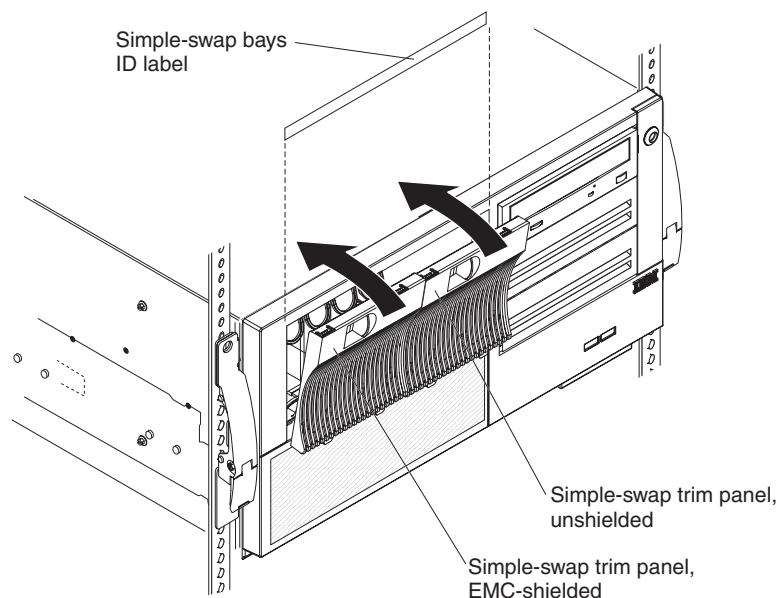

Figure 21. Installing simple-swap trim panels
4. On models with simple-swap hard disk drive bays, insert the trim panels for the hard disk drive bays in the new bezel as shown in Figure 21. Be sure to install the *shielded* trim panel, which has EMC metal strips on it, so that it covers the four hard disk drive bays.